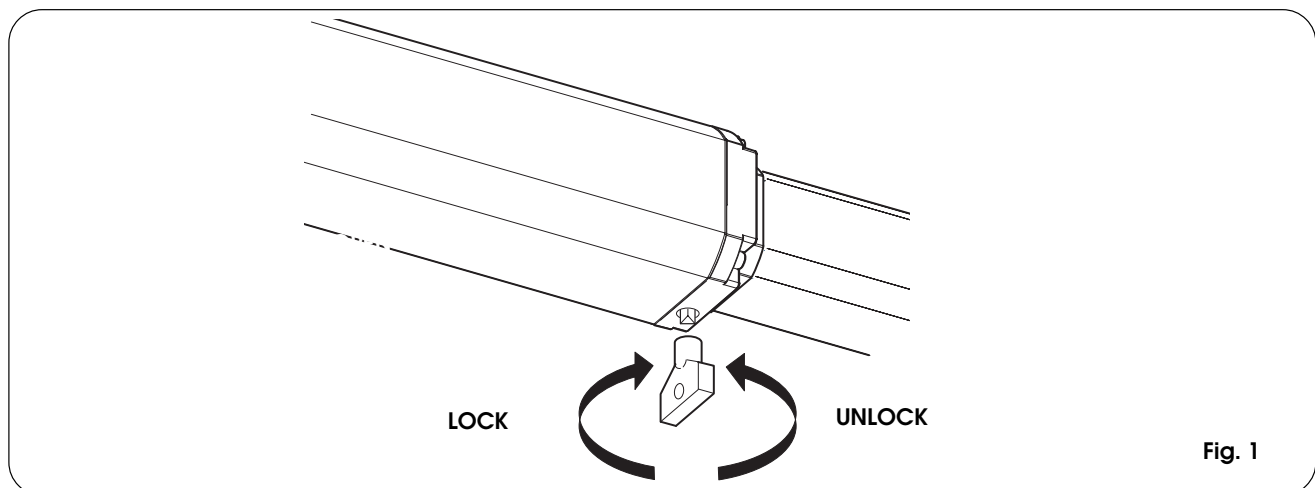

Fig. 1
- Insert the triangular key on the release screw located in the lower part of the flange (Fig. 1).
- To re-lock the operator, turn the key clockwise until it stops (Fig. 1).